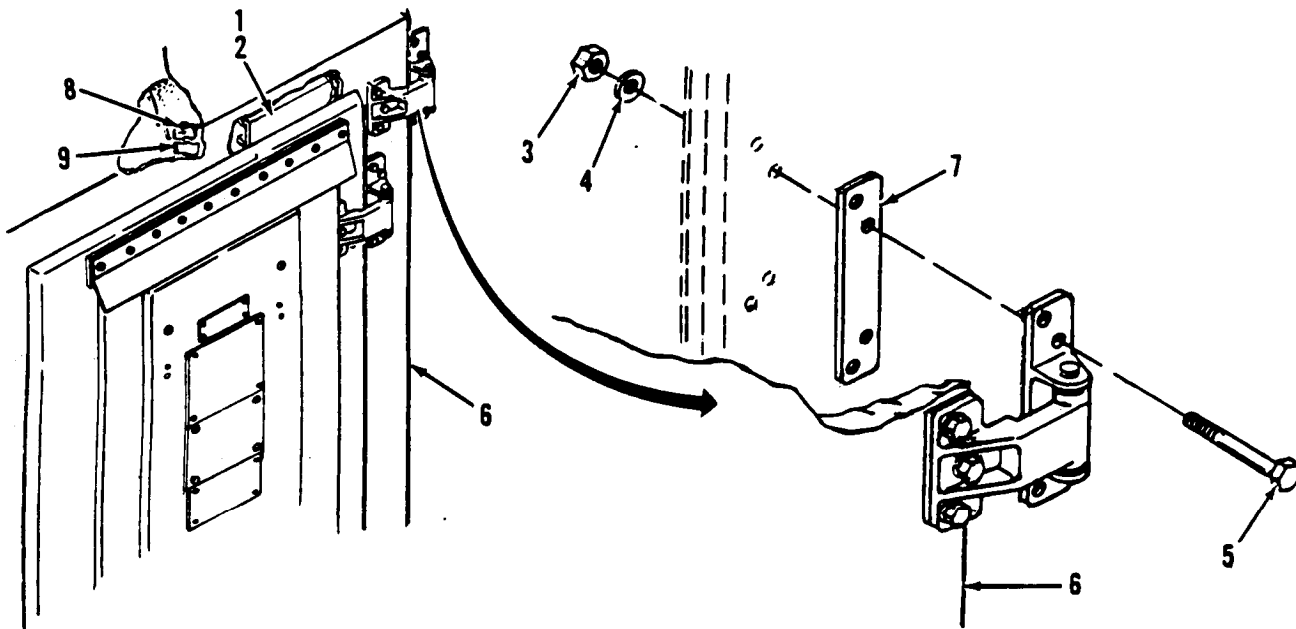

Figure 3-18. Outer Door Assembly Replacement.
a. Inspect. (Figure 3-18)
- (1) Inspect the outer door assembly (6) for external damage.
- (2) Inspect the silicone weather gasket (8) for tightness.
- (3) Inspect the RFI/EMI gasket (9) for wear and secure mounting on shielded shelter.
- (4) Inspect the door for positive closing and proper operation.
b. Remove. (Figure 3-18)
- (1) Remove and retain three phillips head screws (1) attaching door stay channel (2) to door panel, and pull channel away from door panel.
- (2) Remove and retain four nuts (3), lock washers (4), and hex head screws (5) attaching each of the three hinges to shelter.
- (3) Remove outer door panel (6) and three hinge spacers (7).
a . **Install.** (Figure 3-18)